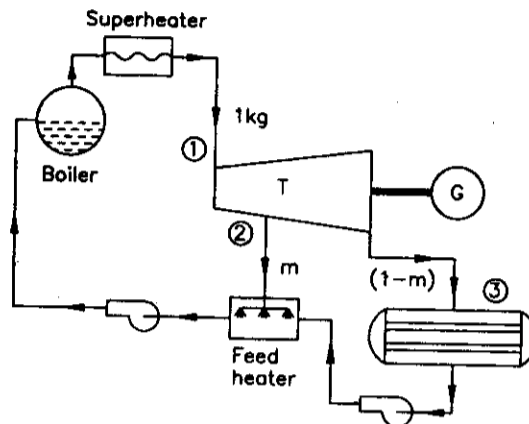

Fig. Prob. 22.25 (a).
**Solution.** The component layout is shown in Fig. Prob. 22.25 (a) and the processes as per given conditions are represented on  $h$ - $s$  chart as shown in Fig. Prob. 22.25 (b) and the enthalpies at all the points are noted from  $h$ - $s$  chart and steam table.